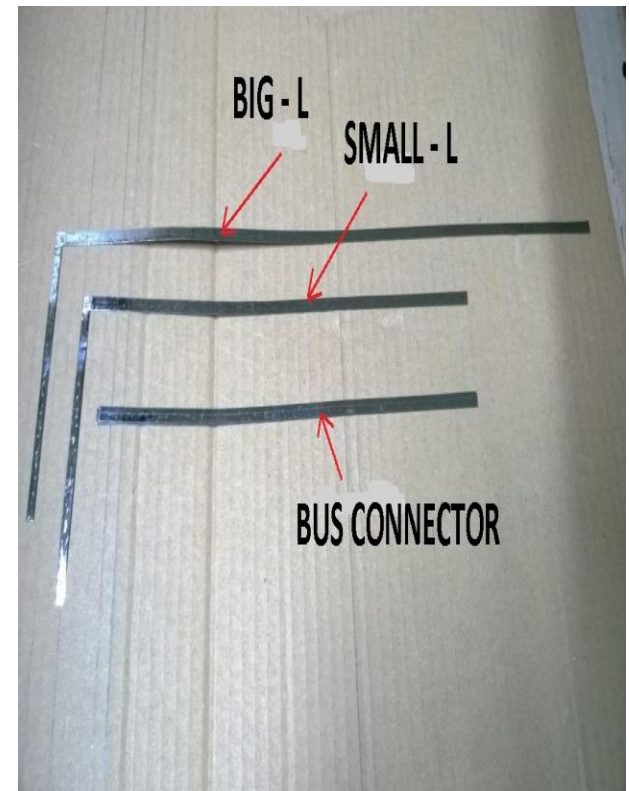

Fig 1
1. 5mm X 0.22 mm called **string connectors** (Fig 1)